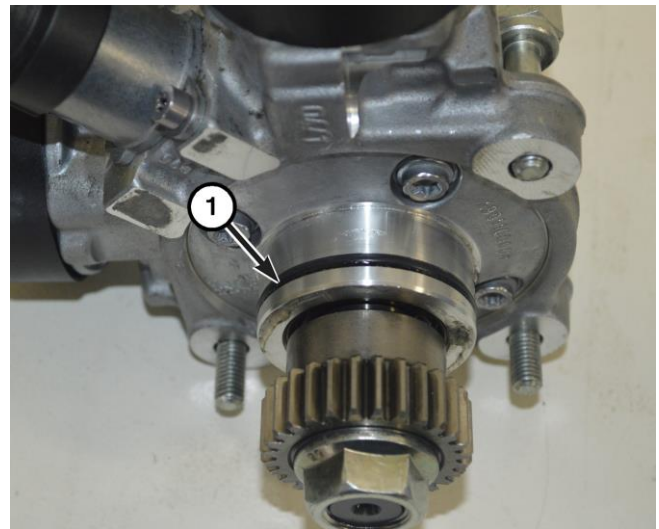

Figure 87 – HPFP O-ring
19. Install a **NEW** O-ring seal (1) to the fuel injection pump (Figure 87).